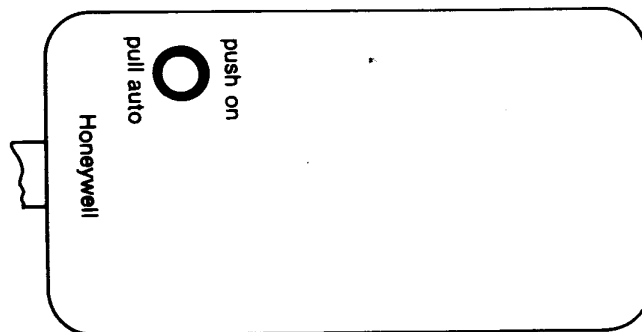

Figure C-2: Limit Switch
- r. Honeywell limit switch comes preset from factory and no adjustment is necessary. (Refer to Figure C-2, below.)